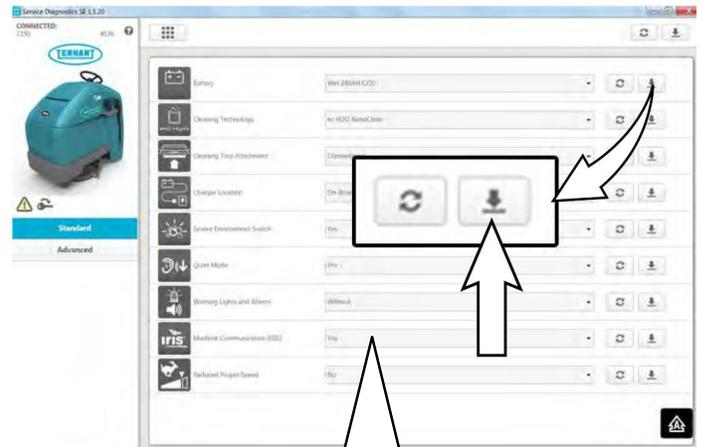

Fig. 27
- From the machine configuration page, select “Yes” for **Machine Communication (IRIS)** (Figure 27). Then press the down arrow button to program the machine. A green check will appear next to the down arrow button when programmed.